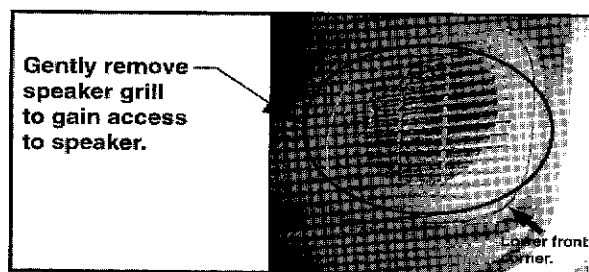

Figure 5
8. Raise the window to the “UP” (closed) position, and remove the front door speaker grill by gently popping it out from the lower front corner (Figure 5).